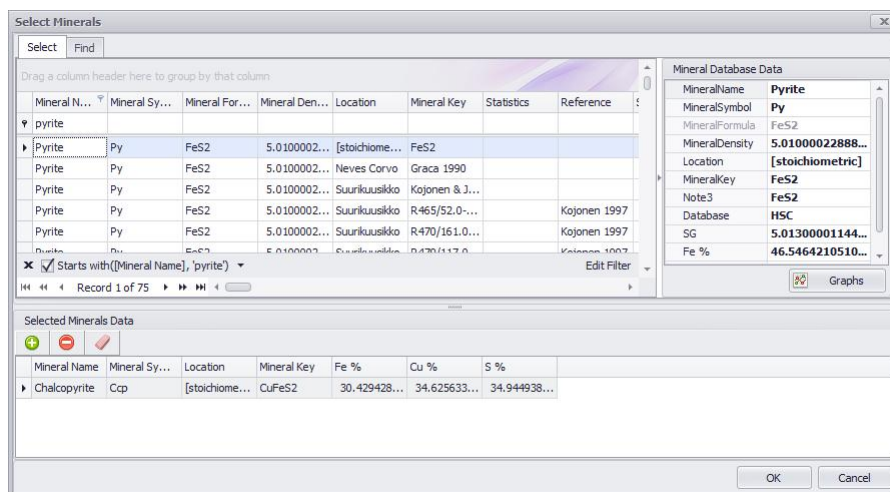

Fig. 20. Selecting minerals from the database.
- ✓ You can search for the mineral from the database; once the selected list is ready, click OK to accept (**Fig. 20**).